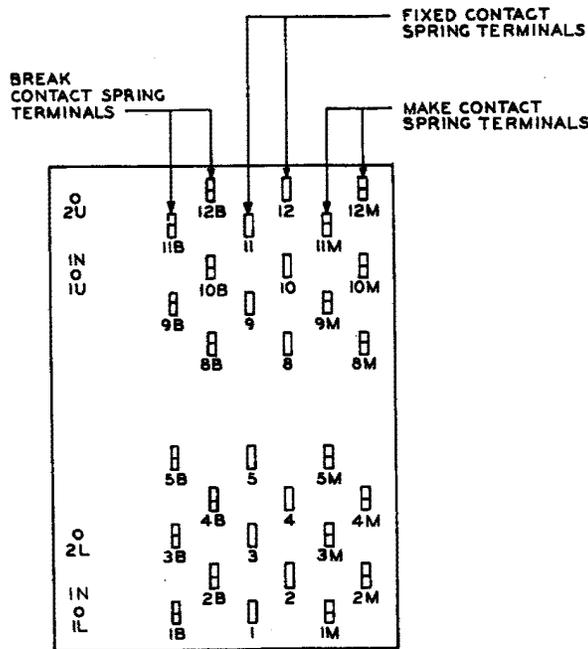

Fig. 13 – Winding and Spring Terminal Arrangement as Viewed From the Rear (terminal side) — AK- and AM-Type Relays
2.30 Spring Terminals (rear view): If the relay has a full complement of springs there are six vertical rows of five terminals each as shown in Fig. 13. Starting from the right, the first pair of rows is for the make springs, the second pair for the fixed springs, and the third pair for the break springs. The left row of terminals in each pair is odd-numbered from 1 to 11 starting at the bottom and omitting number 7. The right row of terminals in each pair is even-numbered from 2 to 12 starting at the bottom and omitting number 6. The terminals for make and break springs have the suffix M and B, respectively. The terminal rows for the make and break springs may have less than five terminals. The terminals provided in these rows are numbered the same as if the relay were equipped with a full complement of make or break springs. Identification of make or break springs may be facilitated by reference to fixed spring terminals, since all terminals in the same horizontal row have the same number.